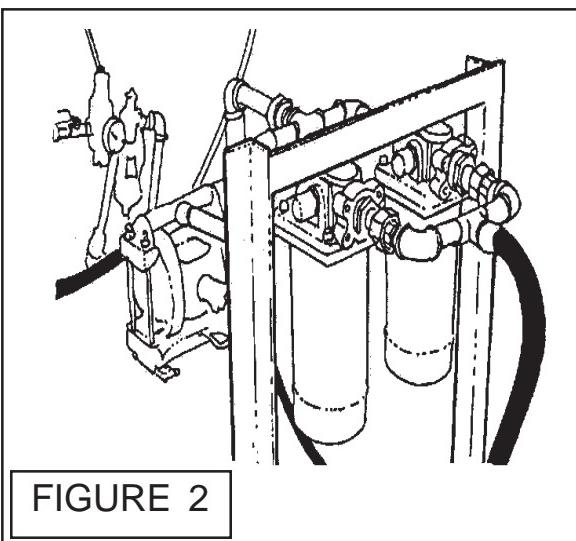

FIGURE 2
3. **Avoid Hydraulic Contamination** by filtering the Hydraulic Oil while filling the Hydraulic Tank. Filter buggies or carts are commercially available for Hydraulic system clean-up and Oil transfer. These consist of high capacity filter, a Circulating Pump, a Drive Motor and hoses for connecting to the units hydraulic system. When adding Oil always use Clean new Oil from a sealed container, If you suspect the Oil of being contaminated don't use it. (See Figure 2 & 3). It is best to always use a filter system when adding even new oil.